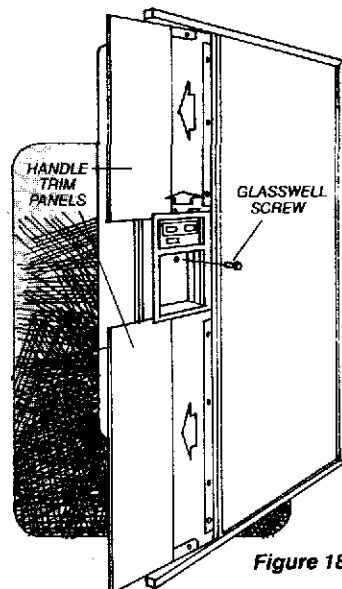

Figure 18
**C)** Remove the handle trim panels by sliding them out of the door(s). See Figure 18.
**D)** Next, remove the water and ice glasswell by removing the mounting screw. Then slide the glasswell up and pull out as in Figure 18.